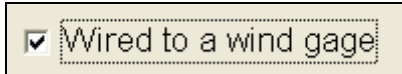

Figure 16.4.22B
- If a Wind Gage (-WG) option is installed in this controller check the **Wired to a wind gage** box (Figure 16.4.22B).